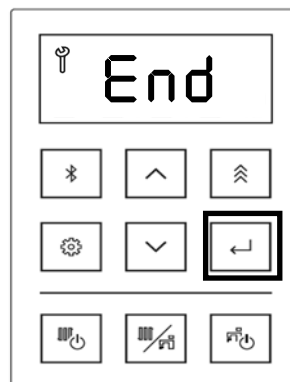

Figure 144
13. Push the Select button, and the display shows “End” (Figure 144).